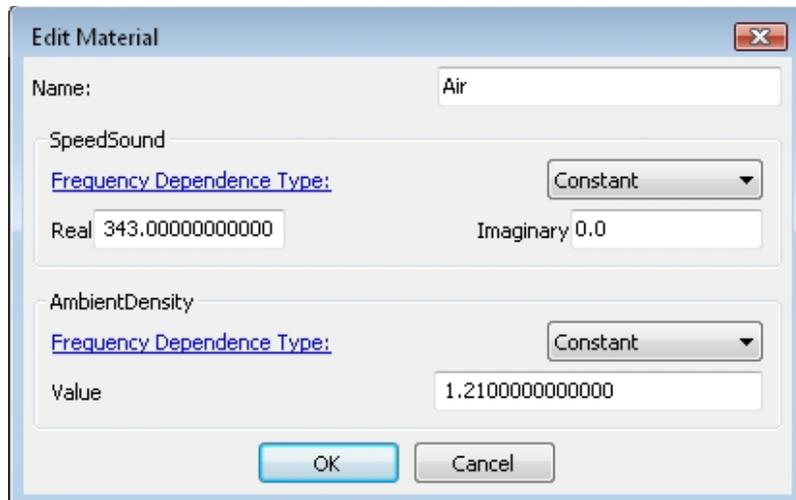

Figure A.14 Edit material properties.
- In the main model menu select: **Model** → **Materials** → **Air**. Right-click on **Air** and select **Edit...** Figure A.14 will appear.